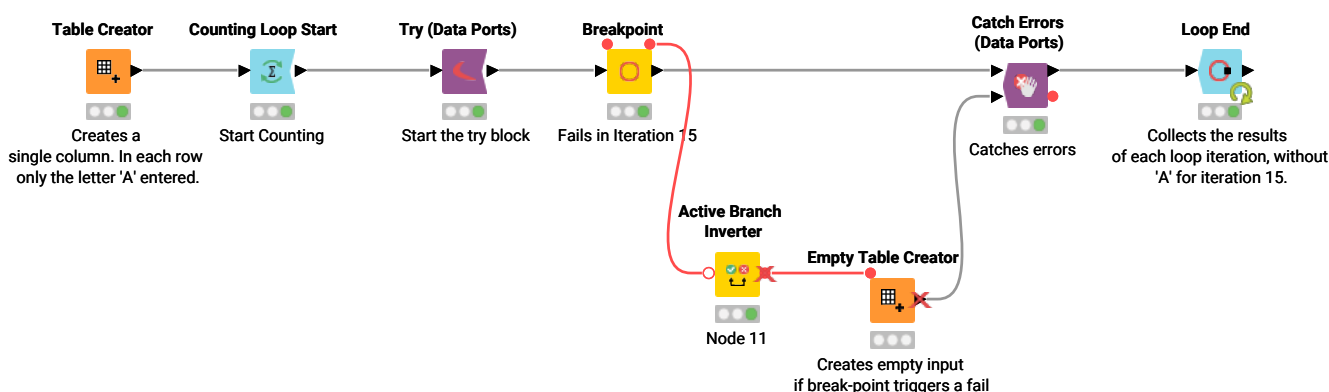

Figure 23. Error handling with a Try-Catch enclosure
Different type of errors, such as a failing connection to a remote service, the invocation of a not accessible database, and so on, can occur when executing a workflow. To handle them you can use the Try-Catch enclosures. The Try part executes some node(s). If the execution fails, the Catch branch with error handling is activated. Otherwise the Default branch is executed. At the end of the Try-Catch enclosure, the results from either the successful or failed execution are collected. An example of a Try-Catch enclosure is shown in Figure 23, which is available on KNIME Hub.
In the workflow in Figure 23, the Try (Data Ports) node begins the enclosure, followed by the Breakpoint node. The Breakpoint node is set to fail at the fifteenth iteration. Here, if execution of the Try part fails the Catch branch is executed.
- Catch Errors (Data Ports) shown in Figure 23